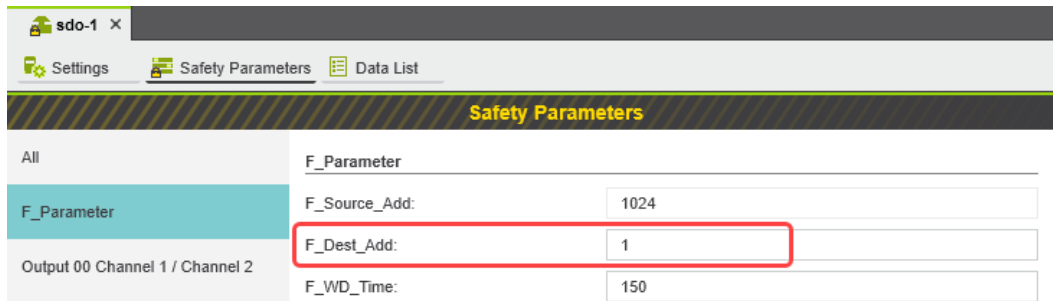

Figure 6-26 F-Address of the PROFIsafe F-Device: F\_Dest\_Add (F\_Destination\_Address)
- “1” for the AXL F PSDO8/3 1F (see Figure 6-26)